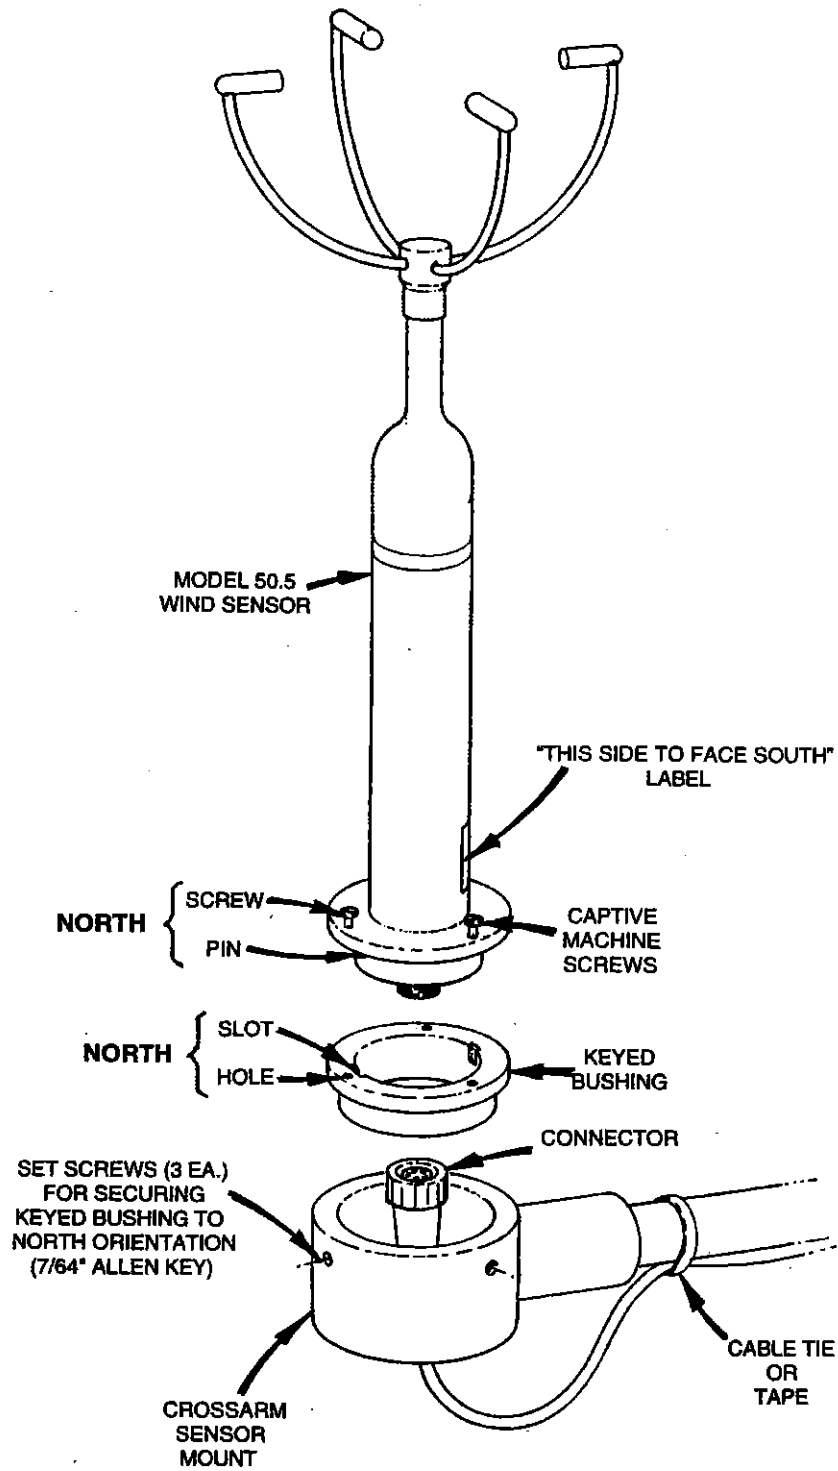

Figure 2-3 50.5 Wind Sensor Components
2.5 ORIENTATION WITHOUT FIXTURE (See FIGURE 2-3 and 2-4)